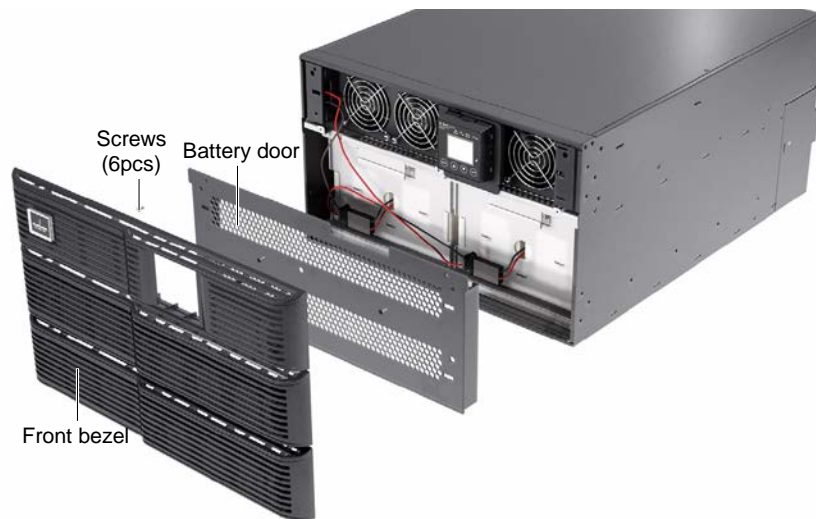

Figure 10-1 Removing the front plastic bezel cover and battery door
2. Loosen and remove the six screws on the battery door, as shown in Figure 10-1.
10,000VA model is shown in Figure 10-1; 5000VA / 6000VA model arrangement is the same except smaller.